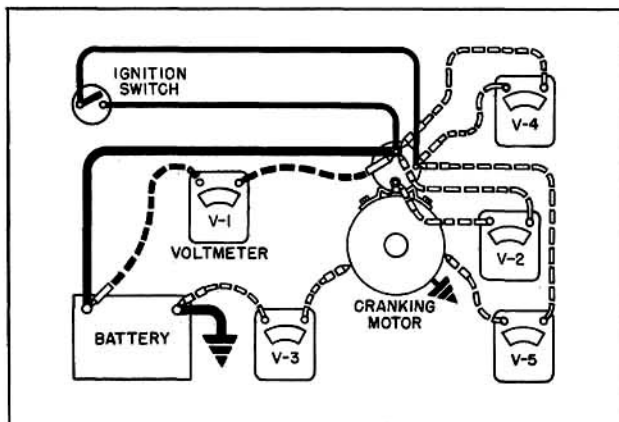

Fig. 13-60 Checking Starter Circuit Resistance
2. Measure the voltage drop (V1) during cranking between the positive battery post and the "battery" terminal of the solenoid. (Fig. 13-60)